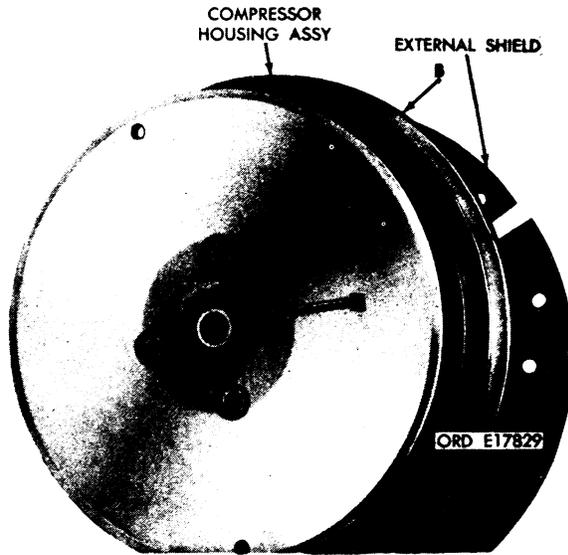

FIGURE 25. REMOVING COMPRESSOR HOUSING ASSEMBLY - TURBOCHARGERS 7748900 AND 10935279.
- (1) Refer to figure 25. Remove four socket-head cap screws, lock washers, and flat washers (A) attaching compressor housing assembly to bearing housing assembly. Separate compressor housing (B) from bearing housing assembly.